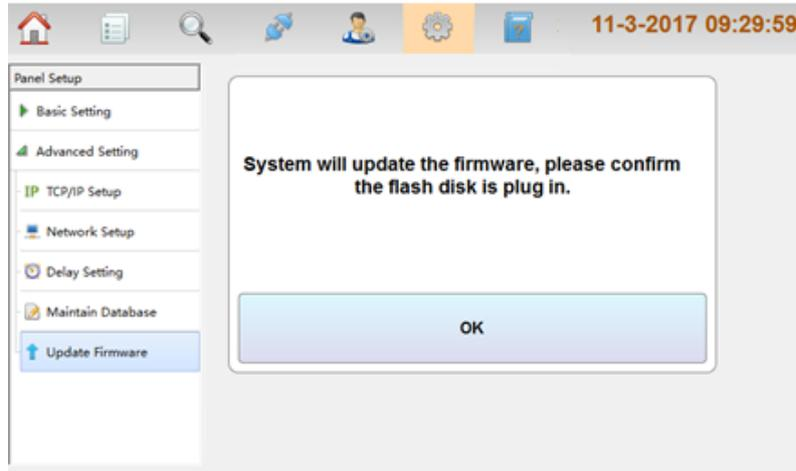

Fig.5-8
- Update Firmware: Clicking **Update Firmware** in **Advanced Setting** menu and entering the super password (obtained from the maintenance service supplier), users can update firmware as shown in Fig.5-8, then insert U-Key into the LCD drive board and click **OK** to update firmware.